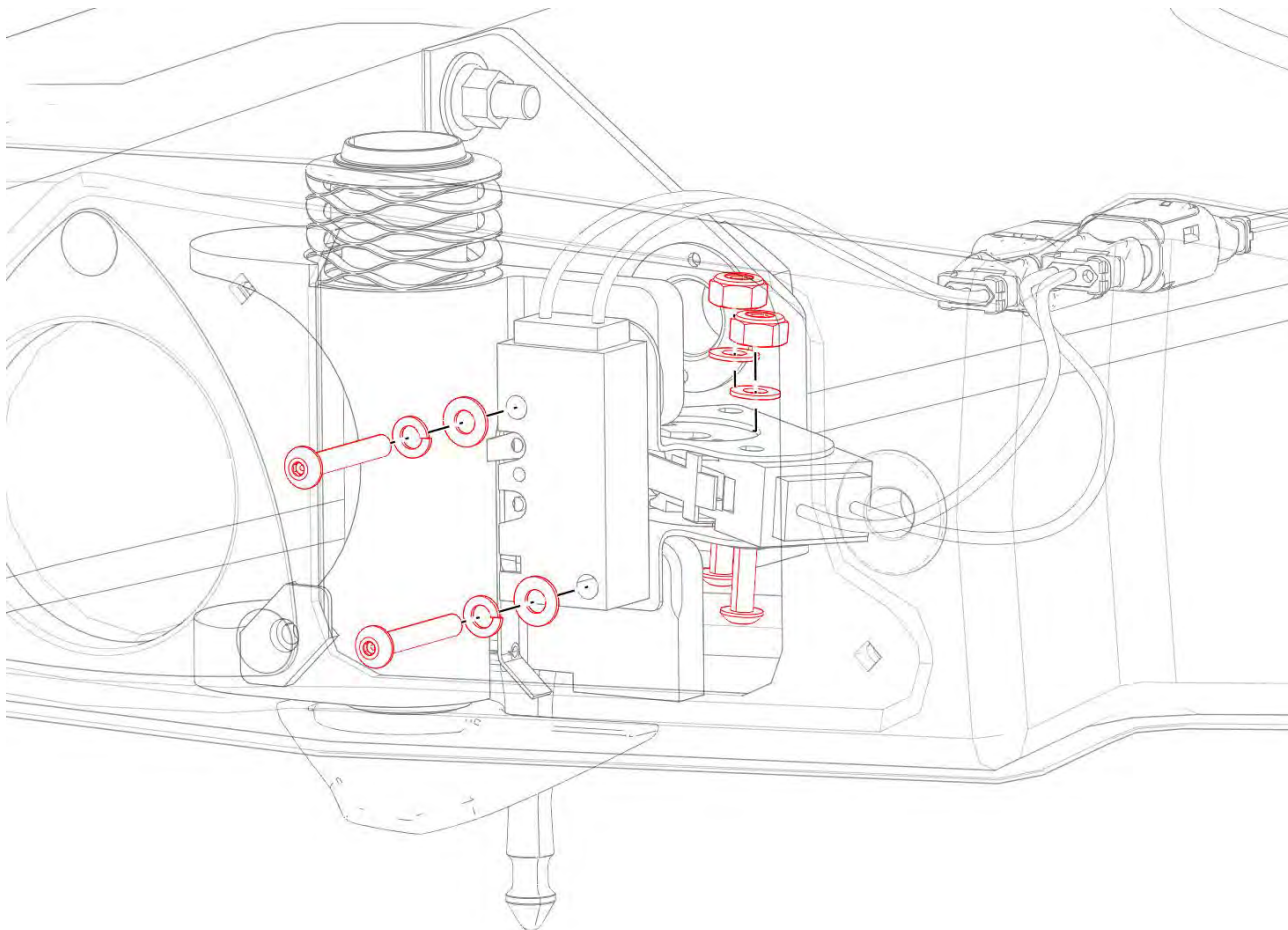

FIGURE 13-3
2. Remove the 4 screws, washers, and nuts securing limit switches. Set aside for installation. (See Figure 13-3.)